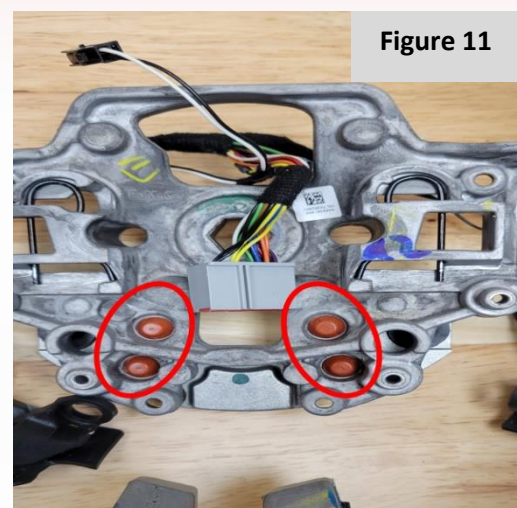

Figure 11
12. Flip the steering wheel back face up. One at a time and using a screwdriver, push the orange rubber grommets holding the steering wheel dampener onto the core off of the OEM steering wheel. The location of these grommets can be seen in **Figure 11**.
Using an Allen wrench or pin punch, reinstall the steering wheel dampener into its corresponding holes (**Figure 11**). Using a pea sized ball of silicon grease on each grommet, press softly into the backside of the divots in the grommets until they are seated. Applying too much force may cause damage to the grommets.